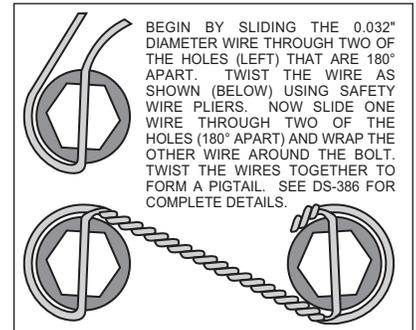

Figure 4. Safety Wire Diagram
•Slide the caliper mounting bracket kit assembly (1) onto the housing flange and then insert the axle assembly through the center hole of the caliper mounting bracket assembly (1) and secure using the stock Original Equipment Manufacturer (OEM) bolts and nuts. Stock OEM hex nuts that retain the caliper mounting bracket assembly (1) should be on the wheel side of the bracket. Apply red *Loctite*® 271 to the stock OEM bolt threads and torque to OEM specifications. Make sure the heads of the caliper wire mounting bracket assembly (1) insert nuts are FACING OUTWARD TOWARDS THE WHEEL.
•Align the correct hole pattern in the rotor (2) with the stud pattern on the axle flange. **NOTE:** Some OEM and after market axles come with stud sizes larger than 0.50" diameter. Verify stud size and have a qualified machine shop drill the hat section of the rotor to the correct size, if necessary. Slide the rotor (2) over the wheel studs covering the mounting bracket assembly (1) and against the axle flange face.
•**NOTE:** Please reference the caution statement at the beginning of the assembly instructions. WITH THE BLEED SCREWS POINTING UP, mount the caliper (3) over the rotor (2) and onto the caliper mounting bracket (1) using lock washers (4) and mounting bolts (5). View the rotor through the top opening of the caliper. The rotor should be aligned in the center of the caliper. If not, adjust the caliper by using 0.032 inch shims (6) by placing them between the caliper mounting bracket (1) and the caliper (3). Apply red *Loctite*® 271 to the mounting bolt threads (5), torque to 30 ft-lb. Safety wire the caliper mounting bolts (5) using standard 0.032 inch diameter stainless steel safety wire as shown in Figure 4. Please refer to Wilwood's data sheet DS-386 (available at [www.wilwood.com/Pdf/DataSheets/ds386.pdf](http://www.wilwood.com/Pdf/DataSheets/ds386.pdf)) for complete safety wire installation instructions.